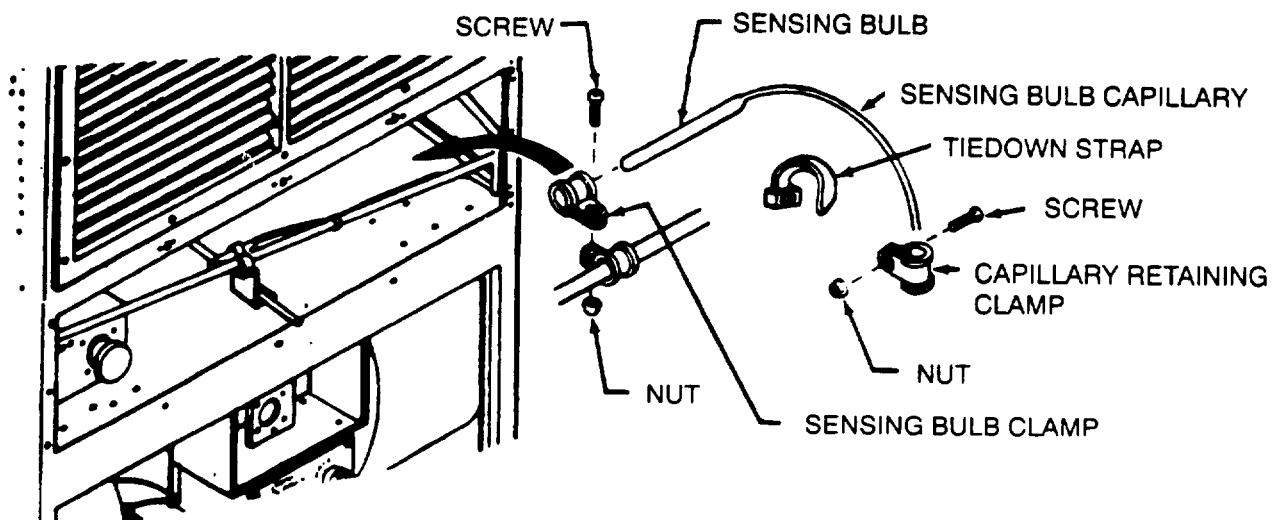

Figure 4-49. Control Panel Sensing Bulb
- (2) Carefully feed sensing bulb and capillary up and into conditioned air intake compartment. (See Figure 4-49.)
- (3) Slide sensing bulb into loop clamp located behind drain line loop clamp. Tighten clamp screw and nut. (See Figure 4-49.)
- (4) Dress the capillary line along side of the drain line and secure with tie down strap. (See Figure 4-49.)
- (5) Coil excess capillary tubing in recess behind control panel.
- (6) Using screwdriver and wrench, secure capillary retaining clamp with screw and nut.
- (7) Connect P8 connector and harness to connector J8 on the control box.